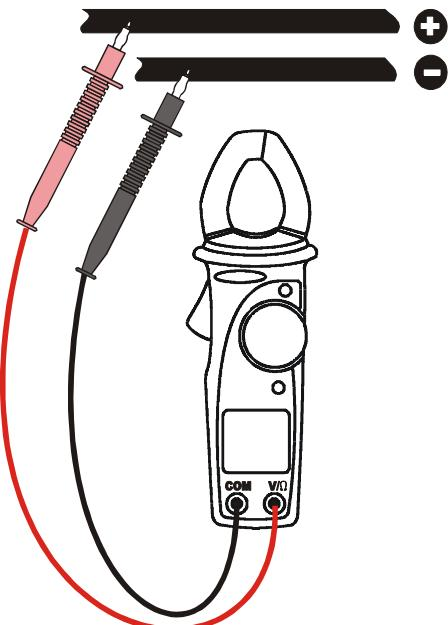

Fig. 5: Use of clamps for DC voltage measures
2. Insert the test leads into the jack, the red plug into V/Ω jack, and black plug into COM jack, like showed in Fig. 5.
5. Press **R-H** key you can select manually the measurement ranges in cyclic order. Press **R-H** key 2 seconds at least to come back to AUTOMATIC range selection.